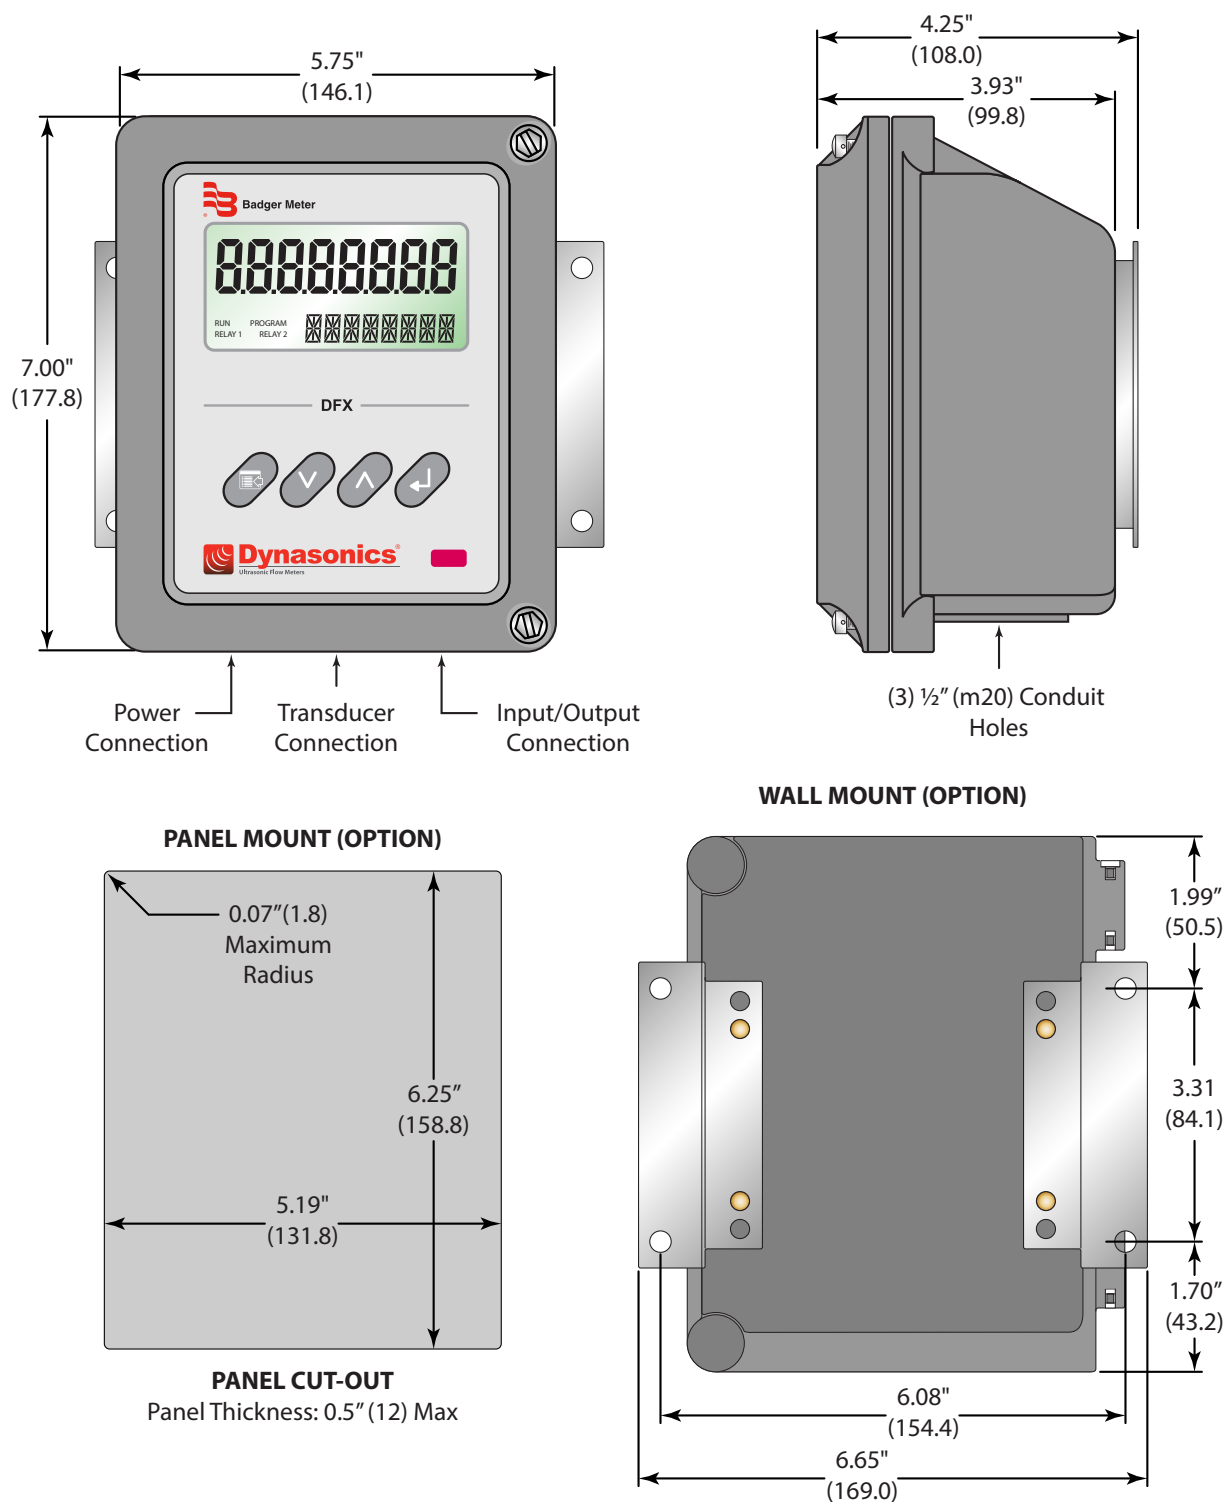

Figure 12: DFX transmitter installation dimensions
3. See *Figure 12* for enclosure and mounting dimension details. Make sure there is enough room for door swing, maintenance and conduit entrances. Secure the enclosure to a flat surface with four appropriate fasteners.